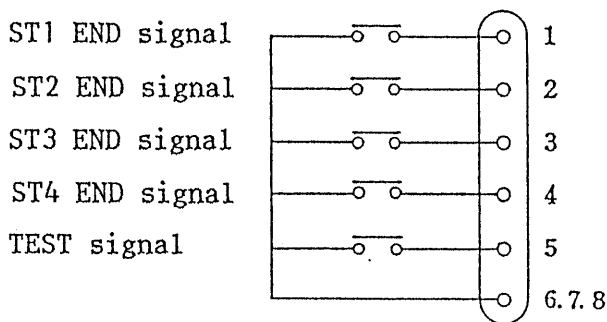

Figure 4.4 Connector Pin Assignment
- (1) The 916 W/I Controller delivers the STATE END signals and TEST signals. The timing of these signals are as shown in the timing chart in Section 2 "SPECIFICATIONS".
- (2) Each of the signals is a contact signal, with contact ratings 100 VAC, 1 A, or 30 VDC, 1 A. The signals are delivered via the SIGNAL OUT connector on the rear panel. The connector pin assignment and layout are as shown in Figures 4.4 and 4.5.